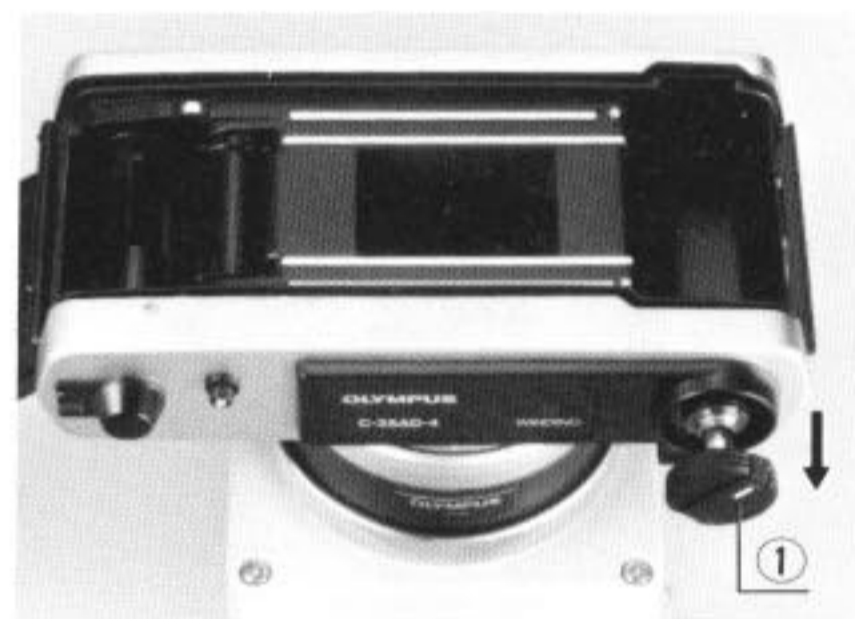

Fig. 15
1) Lift up the rewind crank ① folded into the rewind knob. A slight resistance may be felt before the back cover (hinged cover) snaps partially open. (Fig. 15)